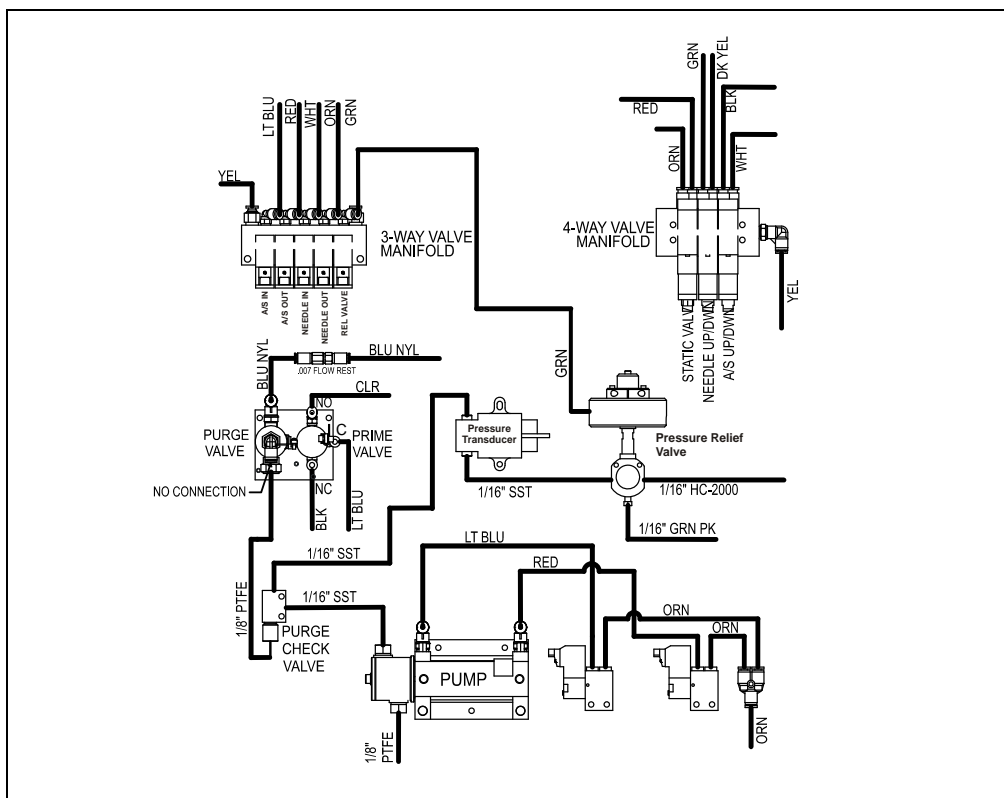

Figure 4-3. Dionex ASE 350 Solvent and Gas Flow Schematic
**Action:** Open the door to the service area. Inspect the following for leaks (see Figure 4-3): pump check valves, pump fittings, pump seal in between the head and pump cylinder, solvent line fittings, transducer fittings, and pressure relief valve fittings. Tighten or replace any leaking fittings (see Section 5.1).
Open the door to the service area (see Figure 2-1). (Rotate the three quarter-turn screws along the edge of the door and swing the door open.) Visually inspect the following for leaks (see Figure 4-3): pump check valves, pump fittings, solvent line fittings, transducer fittings, and pressure relief valve fittings. Tighten or replace any leaking fittings (see Section 5.1).